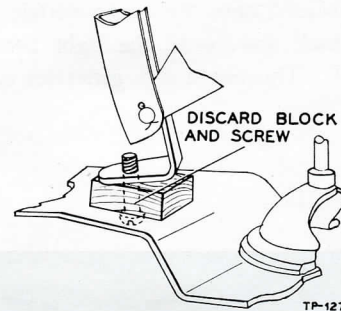

FIGURE 3. SHIPPING BLOCK—FRONT END OF MOTOR
2. Remove the bolt and wooden block from the front of the motor-mounting plate. *Leave the bolt out.* See figure 3.